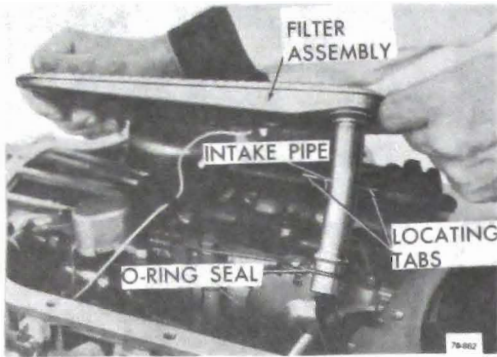

Figure 76-512
8. Remove filter and intake pipe assembly. Discard filter. See Figure 76-512.
9. Remove intake pipe to case "O" ring seal and discard. See Figure 76-512.